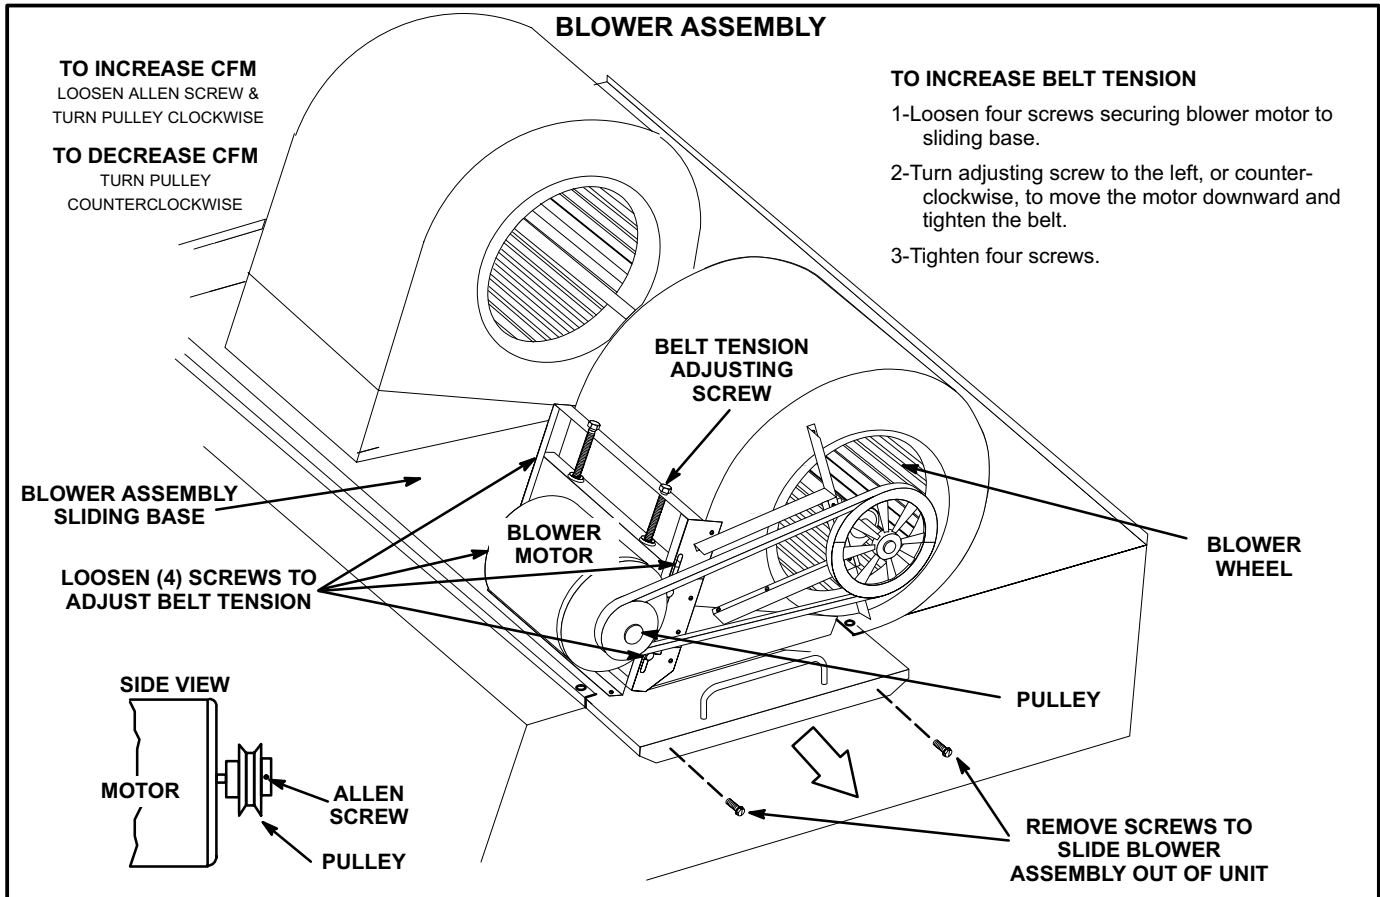

FIGURE 11
- 2- Remove screws on either side of blower assembly sliding base. See figure 11.
- 5- The blower RPM can be adjusted at the motor pulley. Loosen Allen screw and turn adjustable pulley clockwise to increase CFM. Turn counterclockwise to decrease CFM. See figure 11.
- 1- Loosen four screws securing blower motor to sliding base. See figure 11.